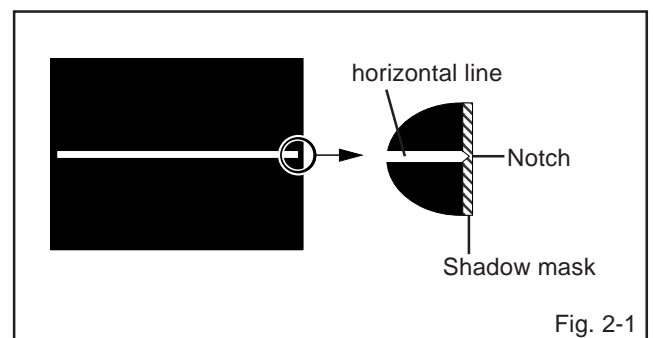

Fig. 2-1
3. Adjust the **VR401** until the horizontal line becomes fit to the notch of the shadow mask. (**Refer to Fig. 2-1**)